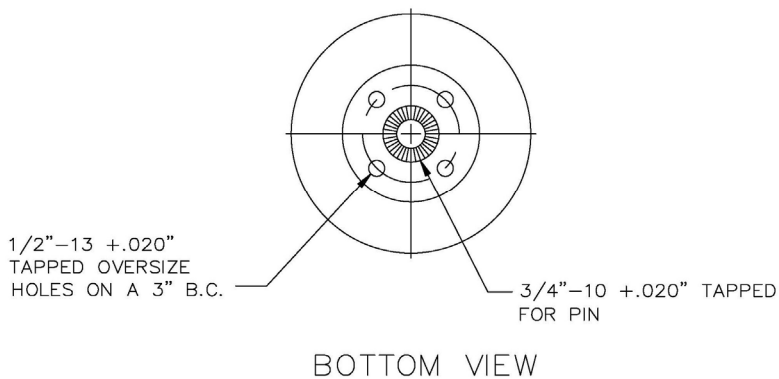

Figure 3: Arcing bracket (arc horn) supplied with sensor
Included with the sensor is an arcing bracket (also known as an arcing horn), P/N 9609-UNIV (See Figure 3) which will be installed under the sensor per Figure 1.
- Place the provided arcing bracket (see Figure 3) underneath the sensor and mount both on the crossarm or other mounting surface. The connector socket on the sensor must be aligned with the hole in the arcing bracket. See Figure 1.
NOTE: If preferred, before attaching the ground wire, the split bolt may be relocated to the alternate hole on the arcing bracket as shown in Figure 3.